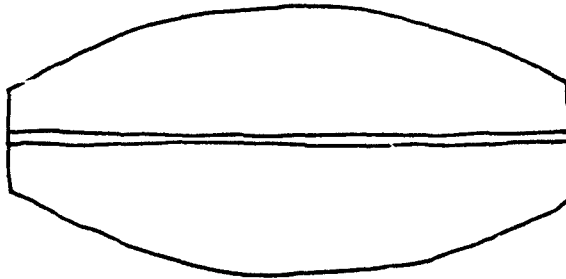

Figure 10. Intermediate arch
**NOTE:** THE DARK GREEN SIDE SHOULD BE UP AND THE SECTION SHOULD LOOK LIKE FIGURE 10.